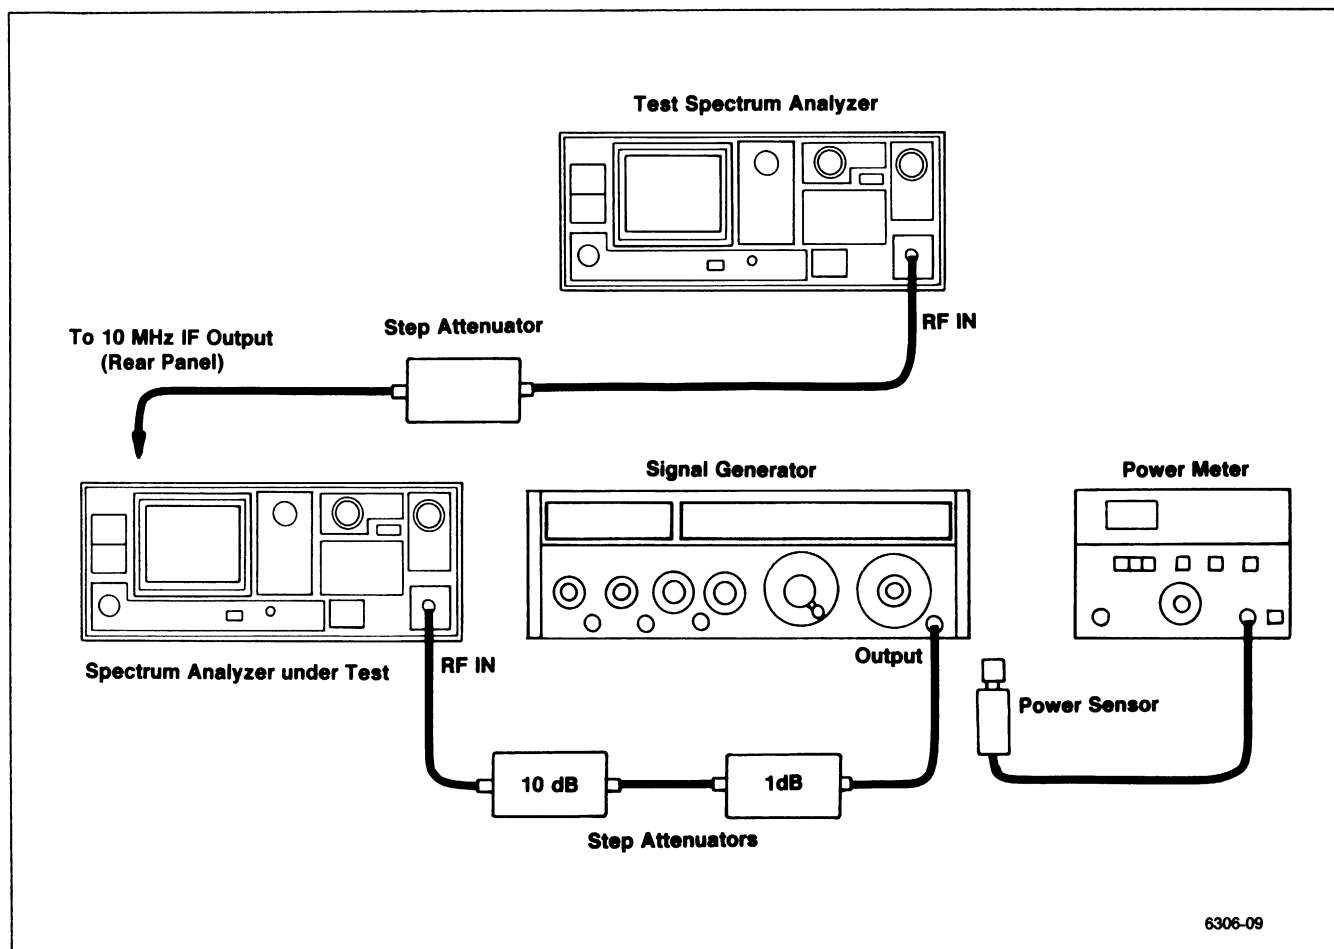

Figure 4-16. Test equipment setup for checking 1 dB input compression point.
b. Connect the test equipment as shown in Figure 4-16, using the generator with the calibrated output level. Set the Spectrum Analyzer controls as follows: